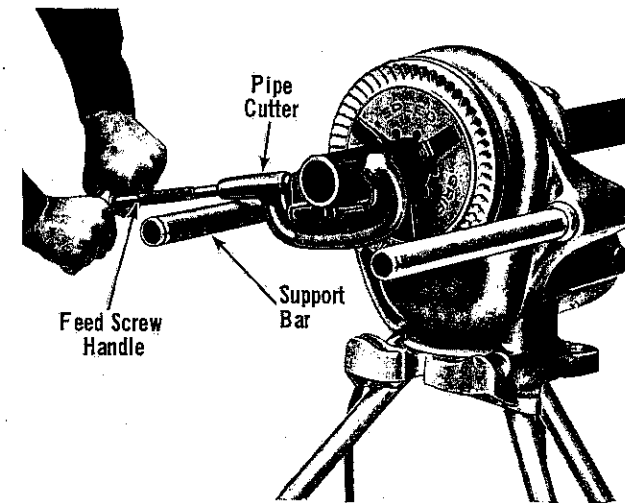

Figure 4. Cutting Pipe with Hand Cutter.
- Rest Pipe Cutter Frame on Support Bar (Fig. 4) located on switch side of machine. Tighten Feed Screw Handle.
- Continuously tighten Feed Screw Handle (Fig. 4) with both hands until pipe cutoff is completed.